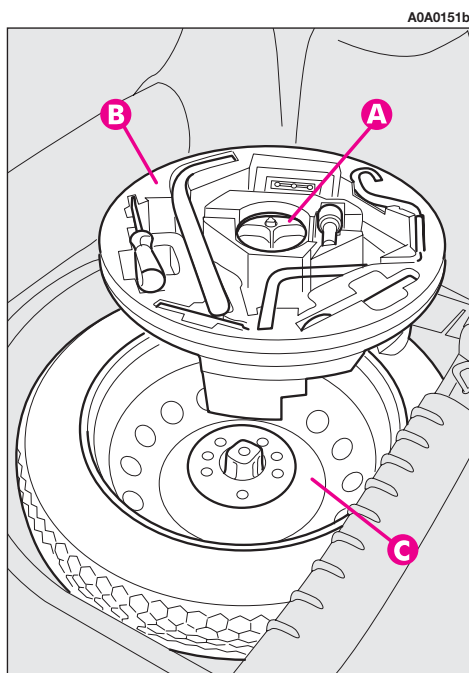

fig. 3
— Loosen the clamping device (**A**-fig. 3).
- stow the container complete with tools on the spare wheel and secure everything with the clamping device (**A-fig. 3**)